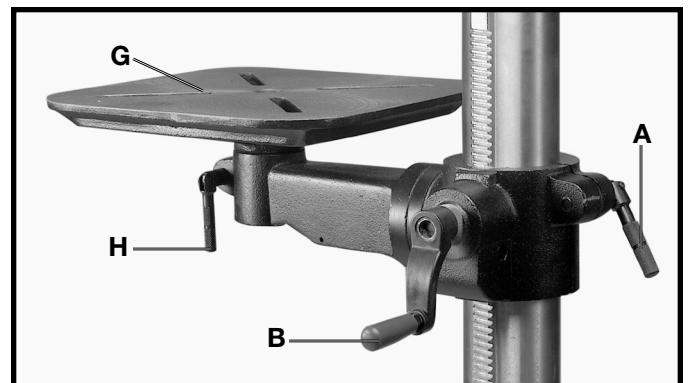

Fig. 23
1. The table can be raised or lowered on the drill press column by loosening the table clamp (A) Fig. 23, and turning the table raising and lowering handle (B). After the table is at the desired height, tighten clamp (A) Fig. 23. **NOTE:** Final positioning of the drill press table should always be from the bottom to the top position.
2. The table can be rotated 360 degrees by loosening clamp (H) Fig. 23, rotate table to desired position and tighten clamp (H).